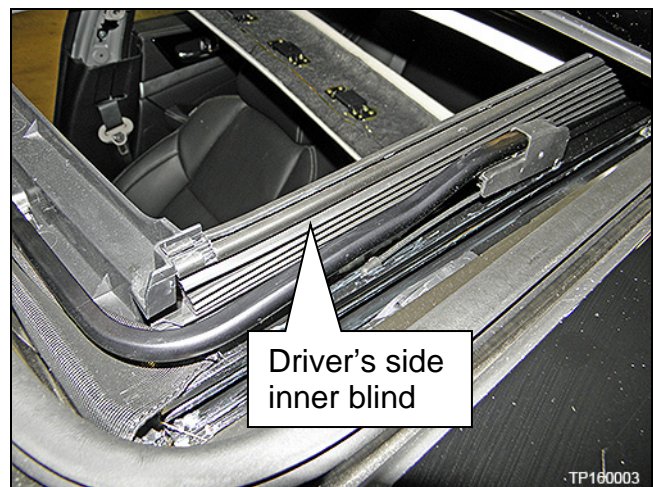

Figure 34
4. Remove the left and/or right inner blinds (Figure 34) to access the adjustment screws.